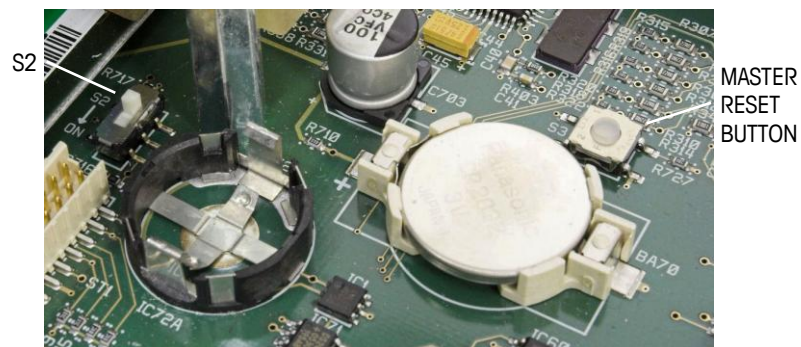

Figure 4-39: Main PCB, Master Reset Button and S2 Locations Indicated
- Two types of master reset are possible, depending on the position of switch S2 (shown in its OFF position in Figure 4-39): A full reset **including** metrologically significant scale configuration data, and a reset that **preserves** scale data.
3. Press and hold the MASTER RESET button (Figure 4-39).